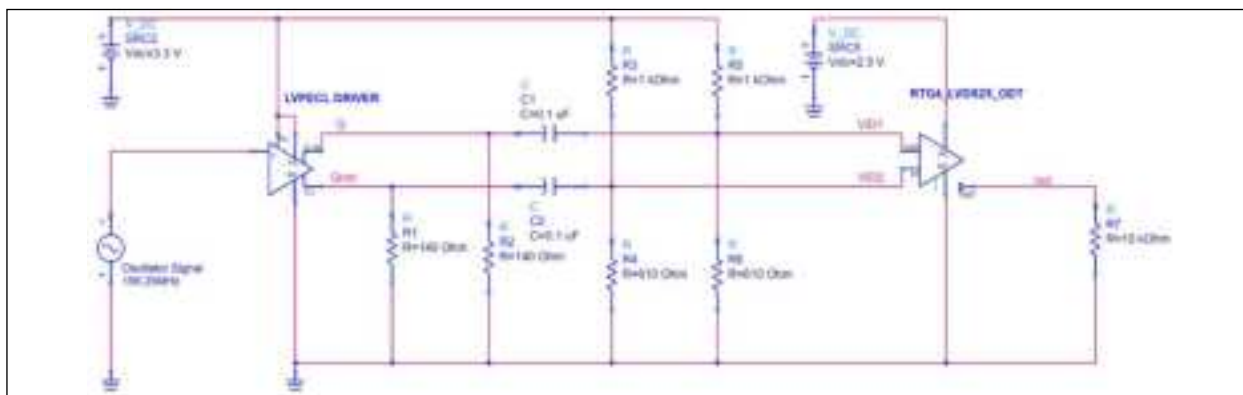

FIGURE 7: LVPECL to LVDS25_ODT, V_{ICM} 3.3V-Bias.
- 2:** See Figure 7 for the setup diagram. The oscillator clock driver (1304R156M25000BF used) was mounted on the RTG4 DevKit in place of the REFCLK 125 MHz (disabled and isolated) for testing.
- Note 1:** This V_{ICM} Self-Bias Termination is an alternative to that of Figure 7. This scheme requires no external supply voltage for the biasing and saves two resistors over that of Figure 7.